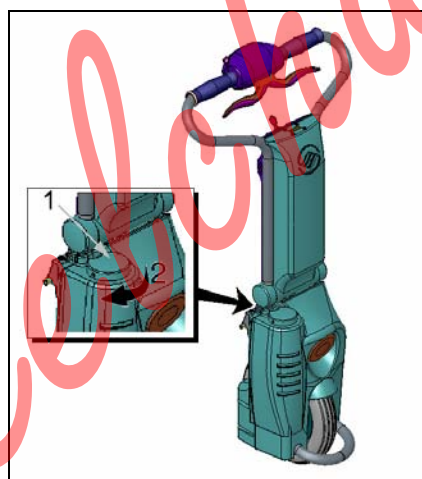

Fig 11
**PARKING BRAKE MANUAL RELEASE** - If for whatever reasons you have the need to push your scooter, the parking brake can be released manually. To achieve this turn the knob at the front right hand side of the tiller to the end of its travel which is about one third of a full turn (fig 11). Buddy is now in a free wheel mode and can be moved about manually. This should all be carried out with the ignition switched off. For obvious safety reasons the scooter is unable to be driven in this state. In addition if the ignition is turned on whilst the brake is in the release position the horn will sound continuously indicating the machine is in an unsafe condition.
- With your hand at the front of the seat, pivot upwards 2/3 inches to the extent of its travel. With the seat base in this position, allow the whole seat to fold down, again to the extent of its travel (fig 11 a b c).